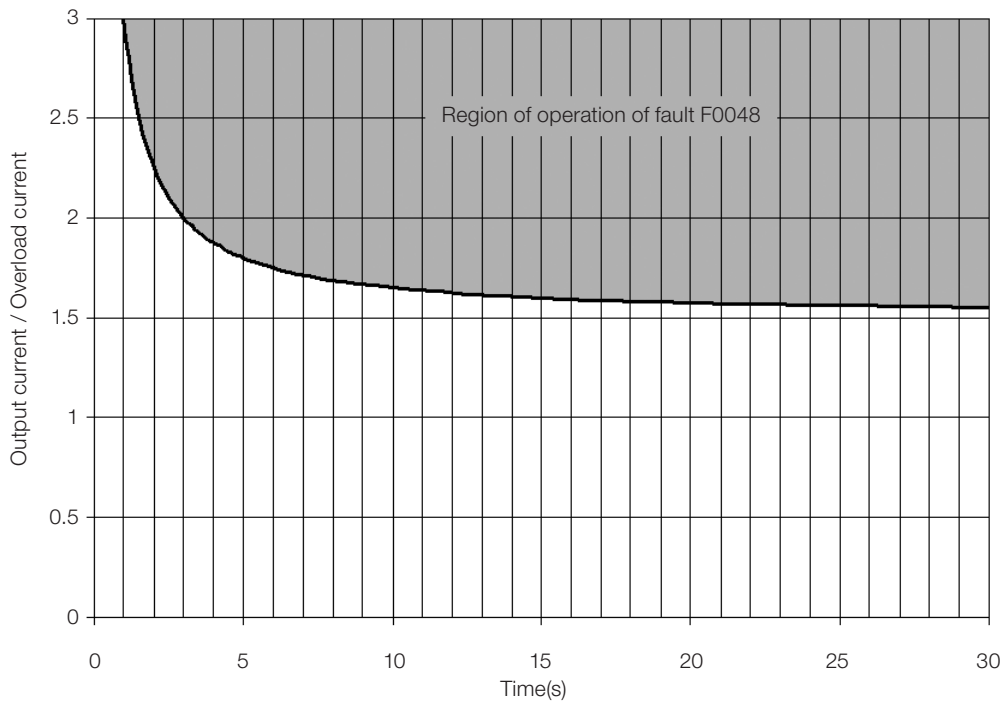

Figure 17.2: Actuation of the overload of the IGBTs (Heavy Duty - HD)
The CFW501 IGBTs overload protection uses the same motor protection format. However, the design was changed so that fault F0048 occurs in three seconds for 200 % of overload for heavy duty (HD) (P0298 = 1), in relation to the inverter rated current (P0295), as shown in Figure 17.2 on page 17-4. On the other hand, the IGBTs overload (F0048) has no actuation for levels below 150 % of the inverter rated current (P0295).